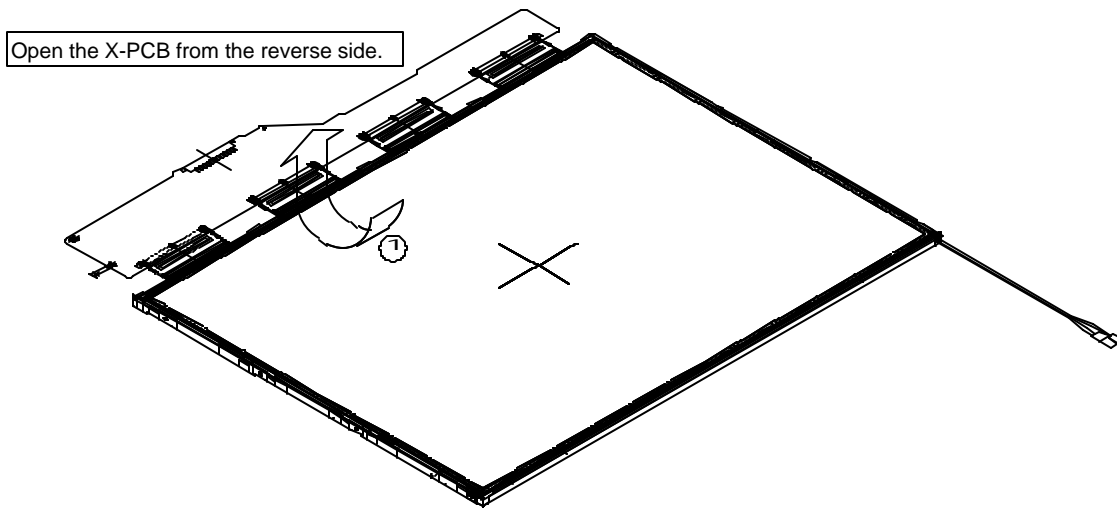

Figure 4-66 Replacing 14 Inch TMD fluorescent lamp (4)
1. Spread out the PCB horizontally, as shown in Figure 4-66.